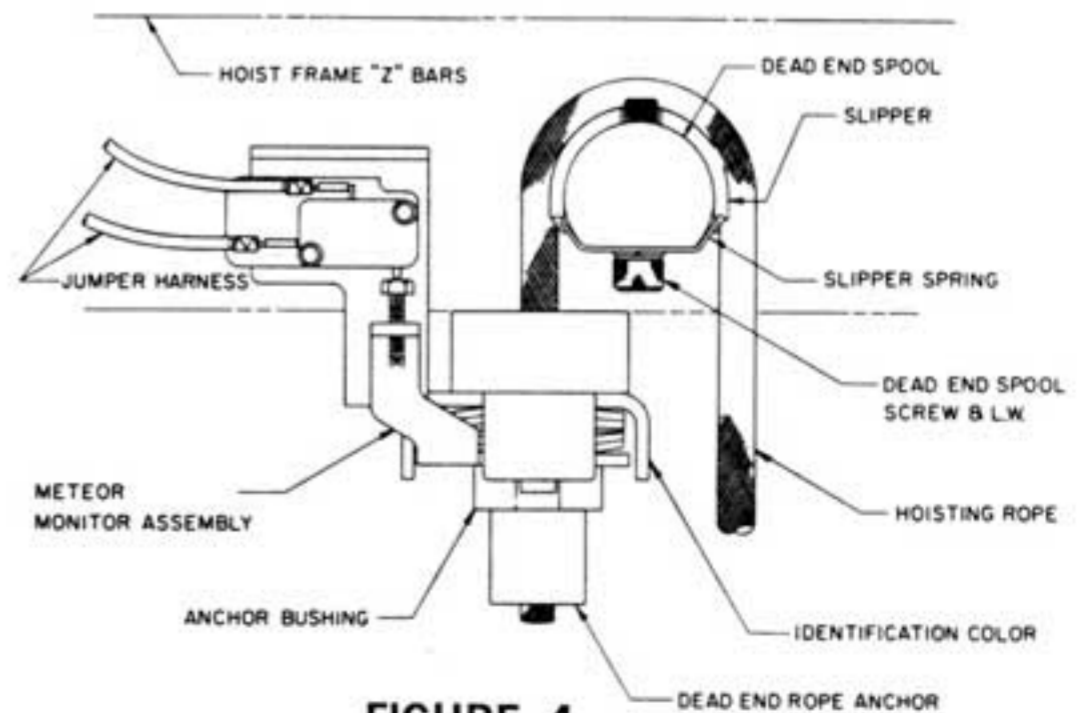

FIGURE 4
2. Remove dead end spool screw and lockwasher. Slide molded slipper between wire rope and dead end spool until slot in slipper is centered over screw hole, slot should be open toward motor. Slide slipper spring over dead end spool screw and lockwasher. Re-install screw so that the tangs of the spring fit into the grooves in the slipper and tighten screw securely. Refer to Fig. 4.
3. **Do Not Take Switch Assembly Apart.** Grasp the dead end rope anchor and pull down several inches of wire rope. Thread rope anchor through switch assembly, insert anchor bushing in Monitor assembly, seat rope anchor into bushing recess, allow assembly to seat against anchor plate by releasing grasp on rope anchor. Check to be sure everything is properly seated and that Monitor is properly nested in its protected position between the z-bars of the hoist frame. Refer to Fig. 4.